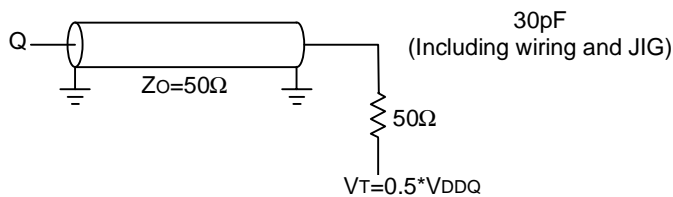

Fig.1 Output load
**(1) MEASUREMENT CONDITION**
- Output load ..... Fig.1
Note26.Test conditions is specified with the output loading shown in Fig.1 unless otherwise noted.